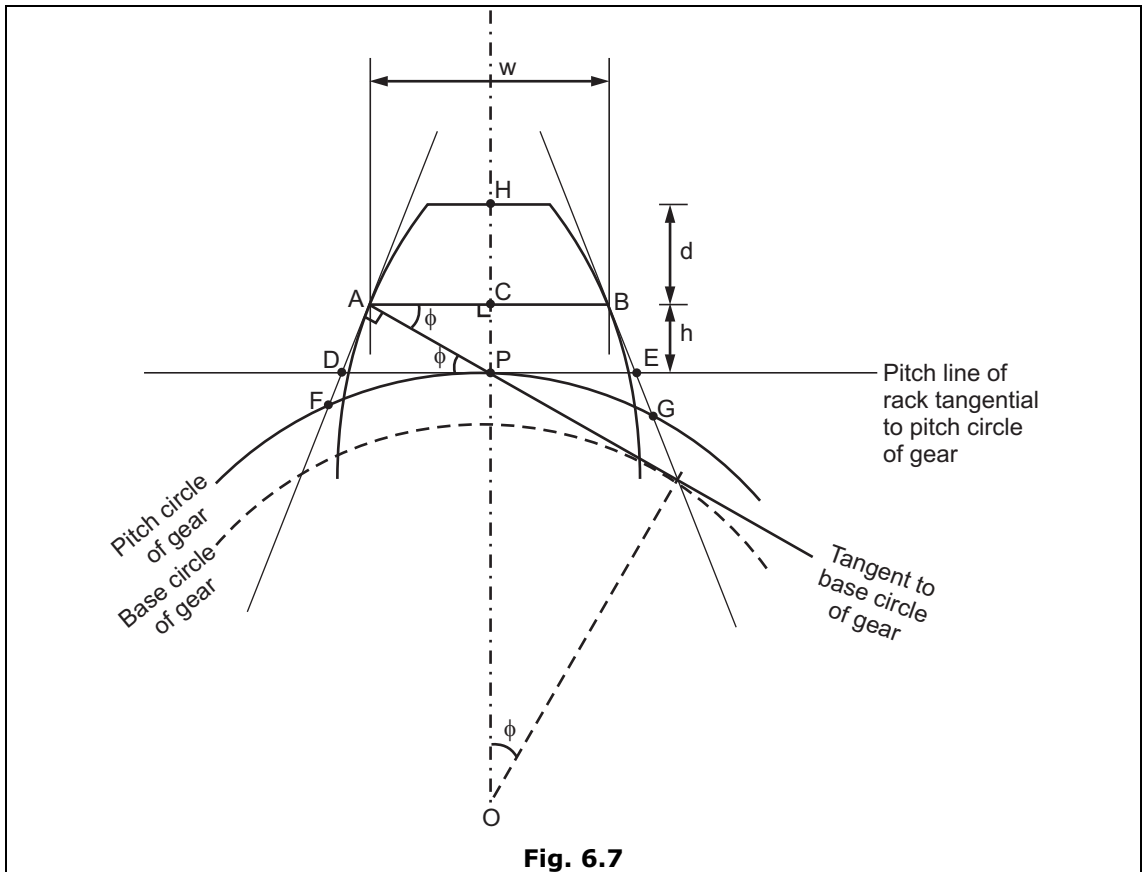

Fig. 6.7
- Teeth of basic rack are straight and inclined to their pitch line at pressure angle (ϕ) as shown in Fig. 6.7. The gear tooth and rack are in contact in symmetrical position of all num at the point of contact. The distance AB remains constant. This distance 'AB' is referred as constant chord. Refer Fig. 6.7.
- Referring to the figure 6.7, we have $\angle CAP = \phi$ i.e. pressure angle